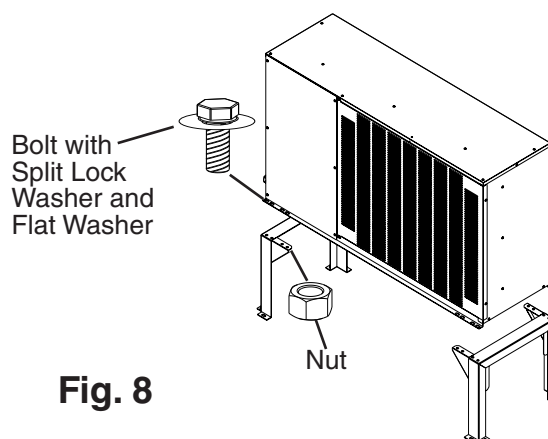

Fig. 8
- 1) Secure the legs to the remote condensing unit with the 16 bolts and nuts provided. See Fig. 8.